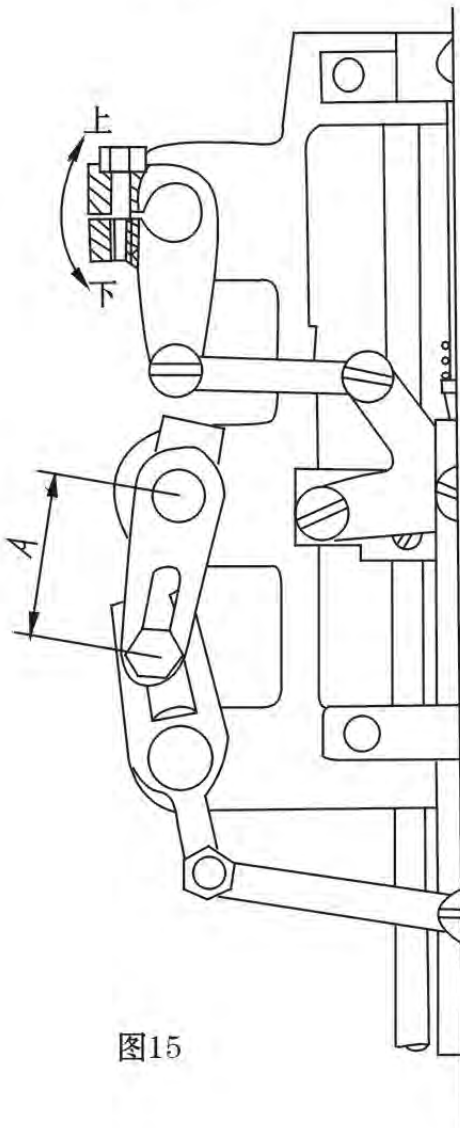

图15
正确的压脚压力标准为, 能够使缝料通过送料牙被平整地向前输送, 并不能有任何缝料打滑现象发生。压脚的压力要根据缝料的厚度加以调节。首先旋松调压螺钉锁紧螺母B, b, 如缝纫厚料, 应加大压力, 这时将机头顶部的调压螺钉A, a按图15 (C) 所示箭头方向旋动; 反之, 缝纫薄料时可按图八(D)所示箭头方向转动调压螺钉, 以减小压脚的压力。最后旋紧调压螺钉锁紧螺母B, b即成。
The right foot pressure standard, can make the material feeding teeth was flattened by Forward delivery, does not have any material slippage. Foot pressure should be adjusted according to the material thickness. First unscrew the pressure regulating screw nut B, B, such as sewing thick material, should increase the pressure, then the head at the top of the pressure regulating screw A, Figure 15 (C) a according to the direction of the arrow shown turn; conversely, sewing thin material according to plans Eight (D) shows the direction of the arrow rotating pressure regulating screw, so as to reduce the foot pressure. most After tightening the pressure adjusting screw nut is B, B.
三十一、压脚交叉提升机构的调节 (图15)
31. Alternative lifting mechanism adjustment of presser (shown in fig 15)